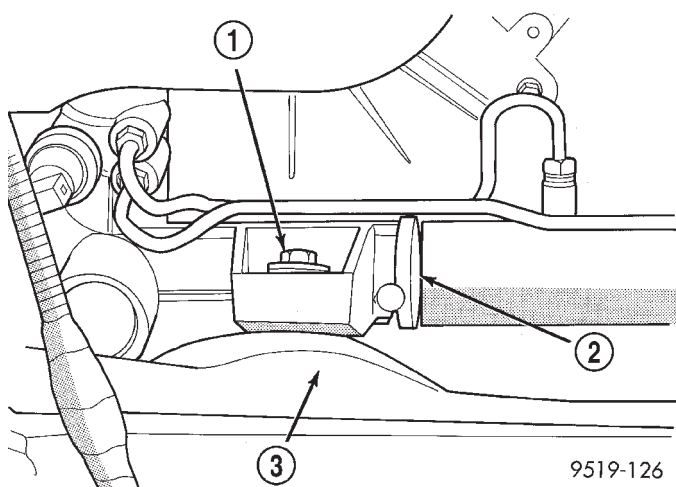
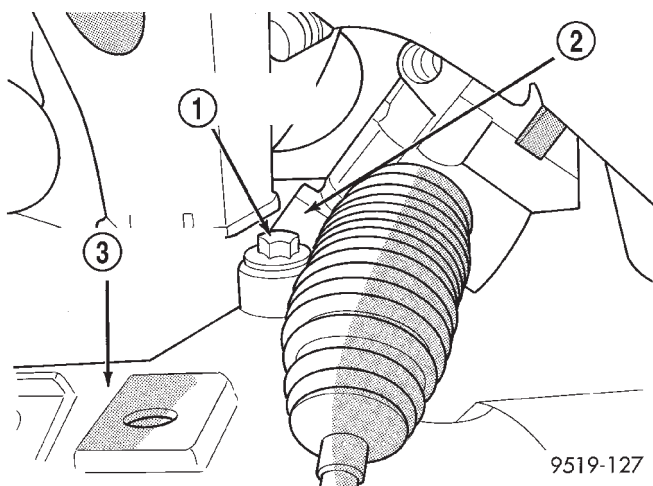
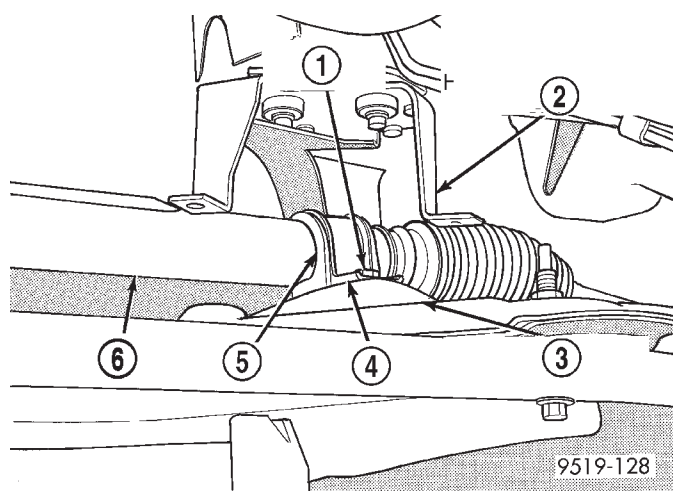

Fig. 21 Steering Gear Rear Mounting Isolator Bolt
Fig. 22 Steering Gear Front Mounting Bolt
Fig. 23 Steering Gear Saddle Bracket Mounting Bolts
(23) Remove the 2 bolts, at the isolators (Fig. 21) and (Fig. 22) attaching the steering gear assembly to front suspension crossmember. Then remove the 2 bolts attaching the steering gear saddle bracket (Fig. 23) to the front suspension crossmember. Remove the steering gear assembly from the front suspension crossmember.
(1) Install steering gear assembly on front suspension crossmember. Install the 2 long steering gear assembly to front crossmember mounting bolts (Fig. 21) and (Fig. 22) into the mounting isolators. Then install the 2 short bolts (Fig. 23) into the saddle bracket. Tighten the 4 steering gear mounting bolts to a torque of 68 N·m (50 ft. lbs.).